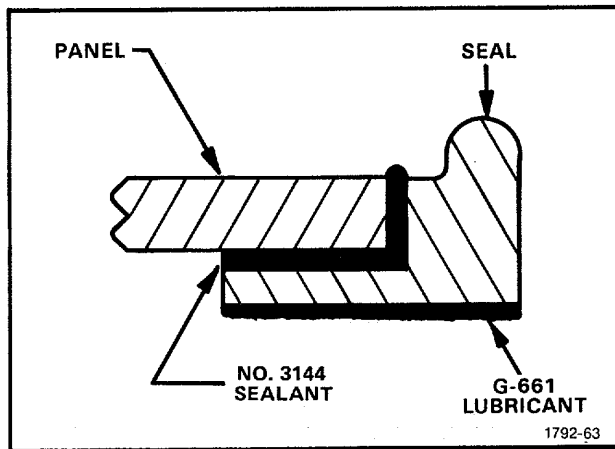

Figure 5-9. Detail of Plug-In Compartment seal.
**9. Bonding of Plug-in Compartment seal to Front Panel (see Fig. 5-9)**